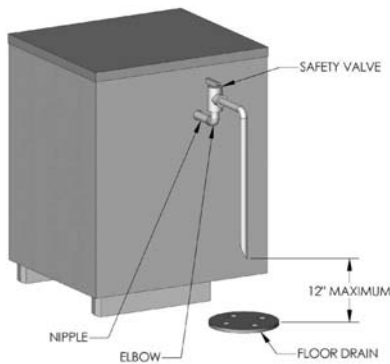

Figure 6.1
- a. Pipe the boiler safety valve provided into the 3/4" tapping on the left side of the boiler as shown in Figure 6.1. Be sure that the relief valve is sized in accordance with local code requirements. In addition, be sure that the safety valve is designed constructed and stamped in accordance with the ASME Boiler and Pressure Vessel Code, Section IV.